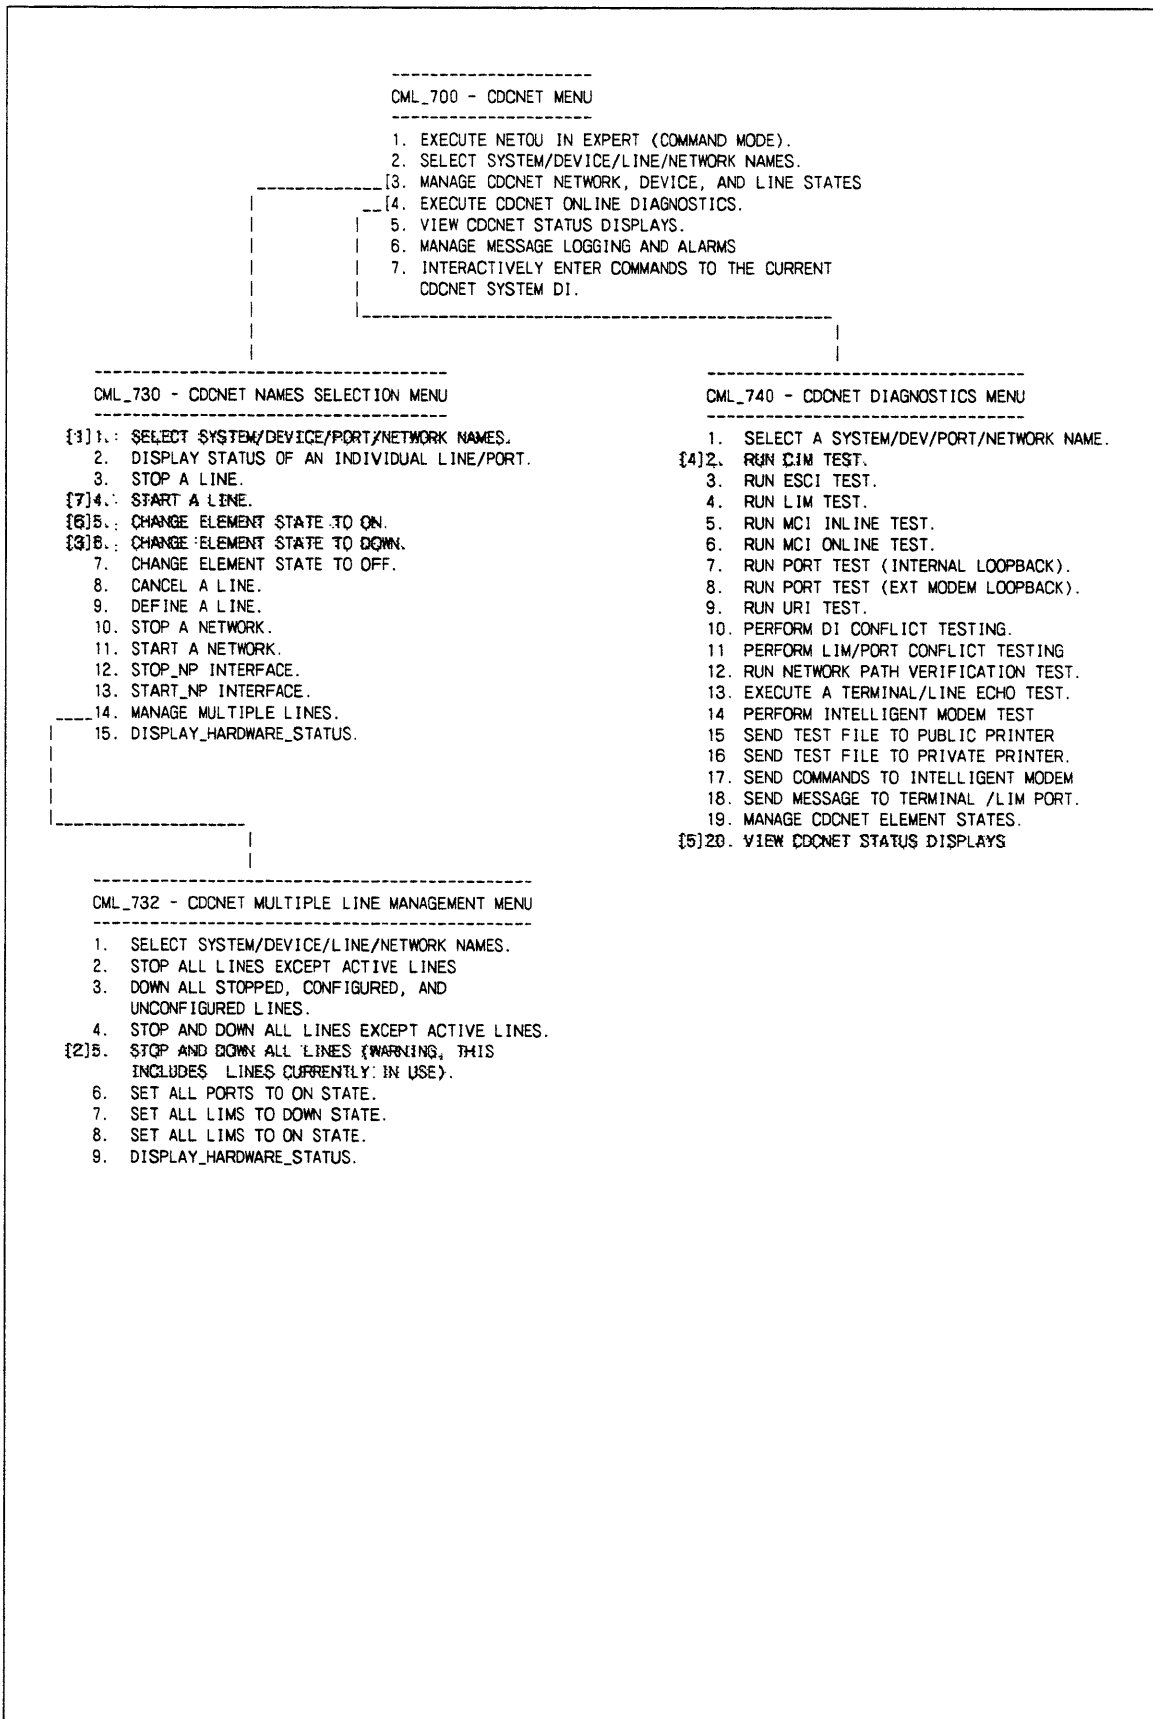

Figure 6-2. CML/VE Menus for CIM Online Test
The following shows the CML/VE menu choices necessary to run the CIM online test. Each menu choice is shown on figure 6-2 and described below. The purpose of this topic is to serve as a quick reference for the most frequently used menu selections. See chapter 4 for a complete description of CML/VE. Familiarize yourself with the CIM test notes and procedure given earlier in this topic before running the test.
1. Numbers in this column correspond to the bracketed numbers (for example, [1]) on figure 6-2.